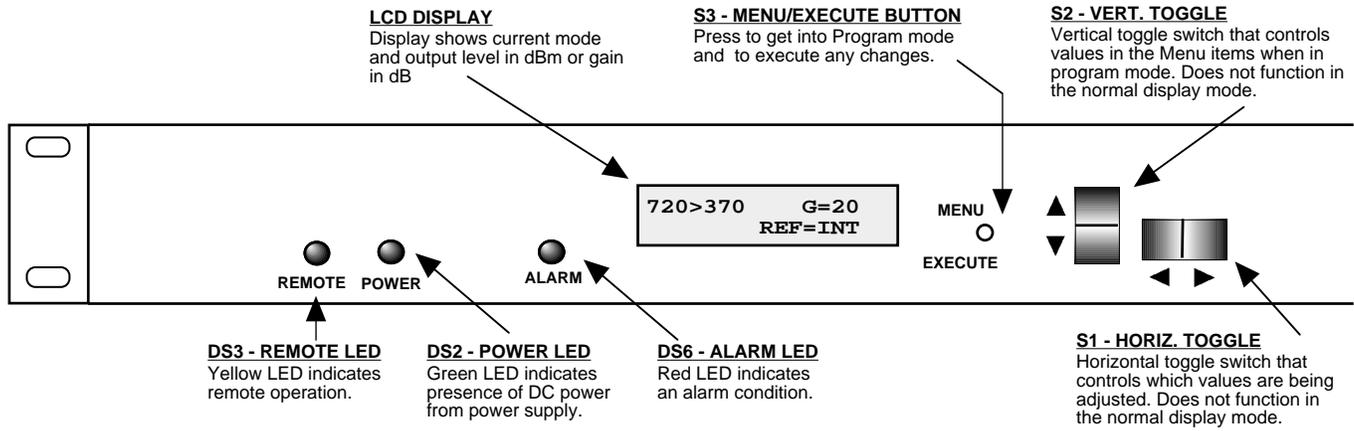

FIGURE 2.2 2083-0703 Front Panel Indicators
Figure 2.2 shows the front panel indicators.
4. Be sure DS2 (green, DC Power) is on and DS6 (red, Alarm) is off (Figure 2.2).
Alarm indications appear on the LEDs (see figure 2.2).